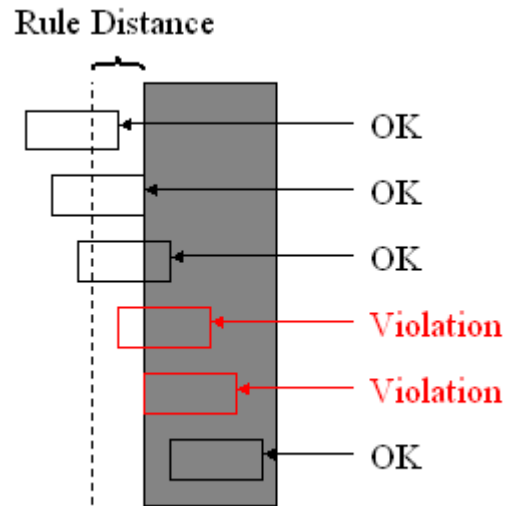

Figure 57: Extension rule of objects
- The Extension rule specifies the minimum amount that an object on one layer must extend beyond the edge of an object on another layer (Figure 57).